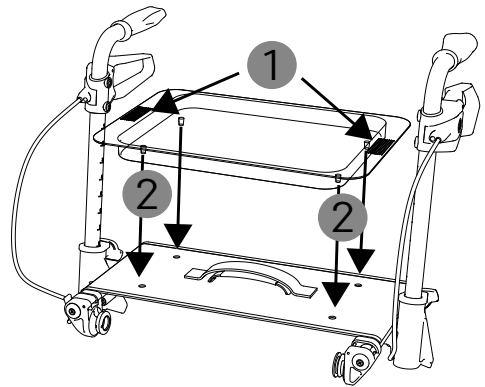

Fig. 14
2. In order to position the tray on the rollator, grip it by the short sides (1, Fig. 14, next page).
3. Place the tray on the seat cover as such that the four pins on the underside of the tray are positioned in the holes provided on the seat cover (2, Fig.14).